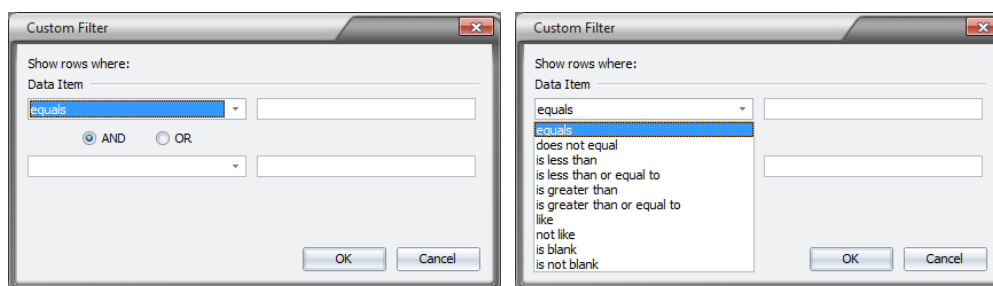

Figure 2.7—Custom Filter dialog
2. Click the gray down arrow to the right of the column heading and select **(Custom...)** from the dropdown list. The *Custom Filter* dialog opens (Figure 2.7).
3. In the first selection field, click the dropdown arrow and select your criteria. In Figure 2.7, the criteria for the selection field on the right is “equals.” In the selection field to the right, enter a type, a value, or text. Note the special characters listed at the bottom of the dialog that can be used as “wild cards” to represent any characters or numbers.